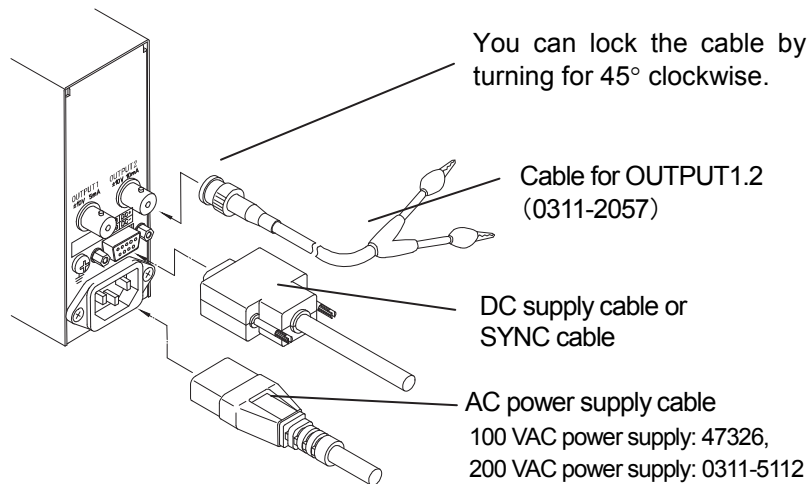

Fig.3-2、 Connection of power supply cable and output cable
3.1.2 Power Supply Cable and Output Cable Connections (See Fig. 3-2)